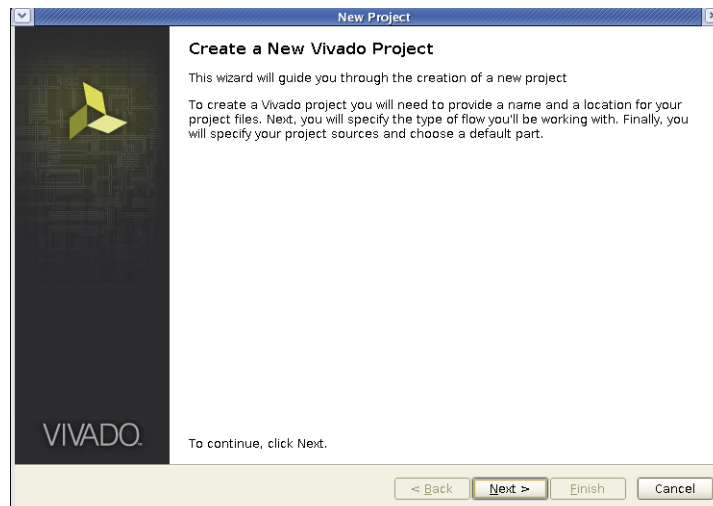

Figure 6-3: New Project Dialog Box
3. Enter a project name and location, then click **OK**. This example uses `project_name.cpg` and `project_dir`. The Project Options dialog box appears (Figure 6-3).